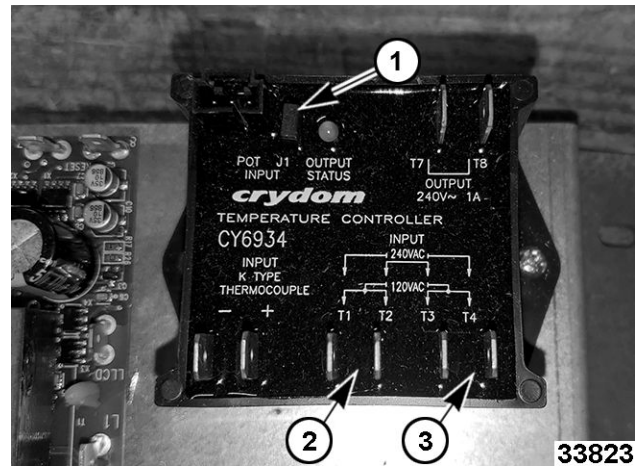

Fig. 12
2ND GENERATION TEMPERATURE CONTROLLER SHOWN IN Fig. 12
- Item 1 shown in Fig. 12 is J1 jumper. **REMOVE** J1 jumper when installing a second generation temperature controller.
- Item 2 shown in Fig. 12 connection is both wires going to T1 and T2 equals L1 (HOT).
- Item 3 shown in Fig. 12 connection is both wires going to T3 and T4 equals L2 (NEUTRAL).